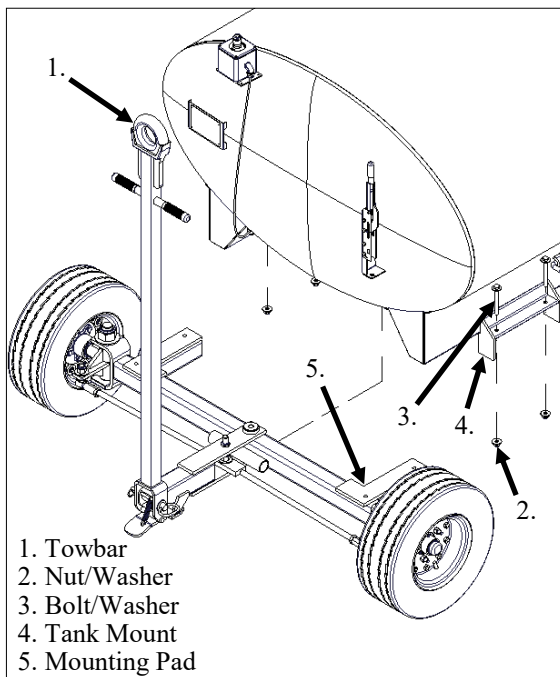

Figure 4-6 Front Undercarriage Removal
- Remove bolts (3) and nuts (2), (See Figure 4-6).
- Pull Front Undercarriage forward. Note location of rubber mounting pads (5).